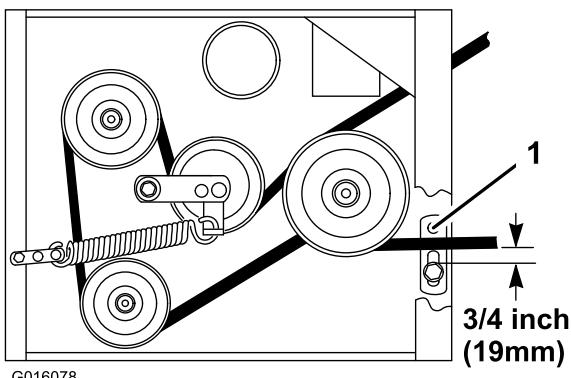

Figure 46
- Check the belt guide under the engine frame for proper adjustment (Figure 46).
Note: When the mower belt is engaged, ensure the distance between the belt guide and the mower belt is 19 mm (3/4 inch) (Figure 46). Adjust the mower belt guide as necessary. The disengaged belt should not drag or fall off the pulley when the guides are properly adjusted.